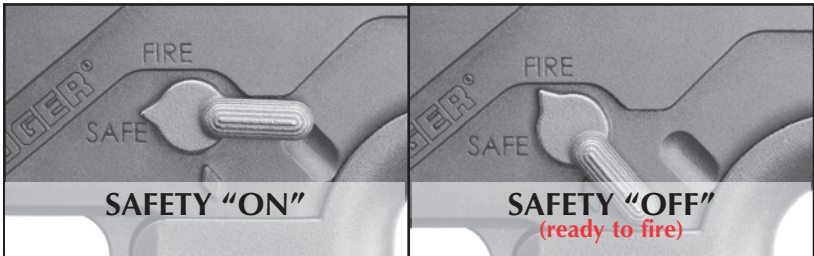

Figure 4
The manual safety mechanism on the **RUGER PRECISION™ RIMFIRE** is located on the left side of the lower receiver, above and behind the trigger. The safety selector switch can be moved from the “FIRE” position to the “SAFE” position only when the firing pin is cocked. (Fully raising the bolt handle cocks the firing pin.) The safety selector switch is “on” when it is in a fully horizontal position pointing to the word “SAFE.” (See Figure 4.) When the safety is on “SAFE,” the rifle will not fire. To move the safety selector to the “FIRE” position, keep the rifle pointed in a safe direction and rotate the safety selector switch towards a vertical position. The lever will stop when the pointer reaches the word “FIRE.” **NOTE:** The safety selector switch is ambidextrous and can be moved to the opposite side of the rifle. Please refer to “Reversing the Safety Selector Switch” on page 31.
3. Position the safety selector in the “Safe” position. (See Figure 4, p. 12 .)
12. **To fire the rifle:** Move the safety selector to the “FIRE” position (see Figure 4, p. 12), and pull (squeeze) the trigger. A cartridge will be discharged. Always be certain that you know where the bullet will strike when you fire the rifle. (See Rule 5, p. 52.)